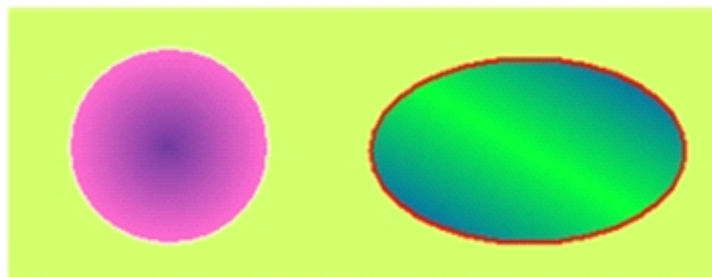

Figure 4-39: An example of an ellipse/circle drawn
- You may adjust the properties of the ellipse/circle using the pull-down and fine tuning button. IFCDRAW provides 15 frame line types, 10 frame line widths, and 21 filling patterns for ellipse/circle to make the graph more beautiful and vivid. See Figure 4-39.